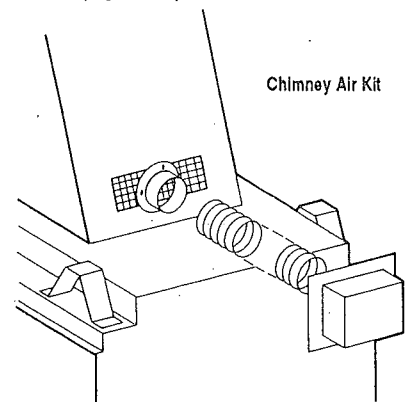

Figure 11
Step 5. Attach the 4" (102mm) collar from the CAK-4 air kit over the grill on the closed end of the transition, using the two (2) screws mounted on the transition (Figure 11).